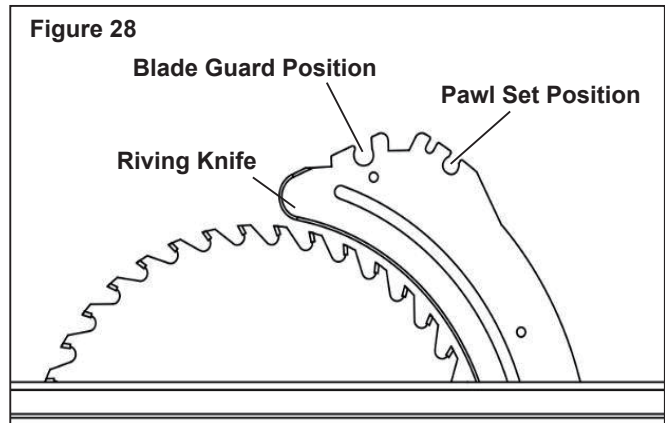

Figure 28
- Place the slot of blade guard body over the riving knife. Slot of bushing is placed in the notch indicated in Figures 28 and 29.